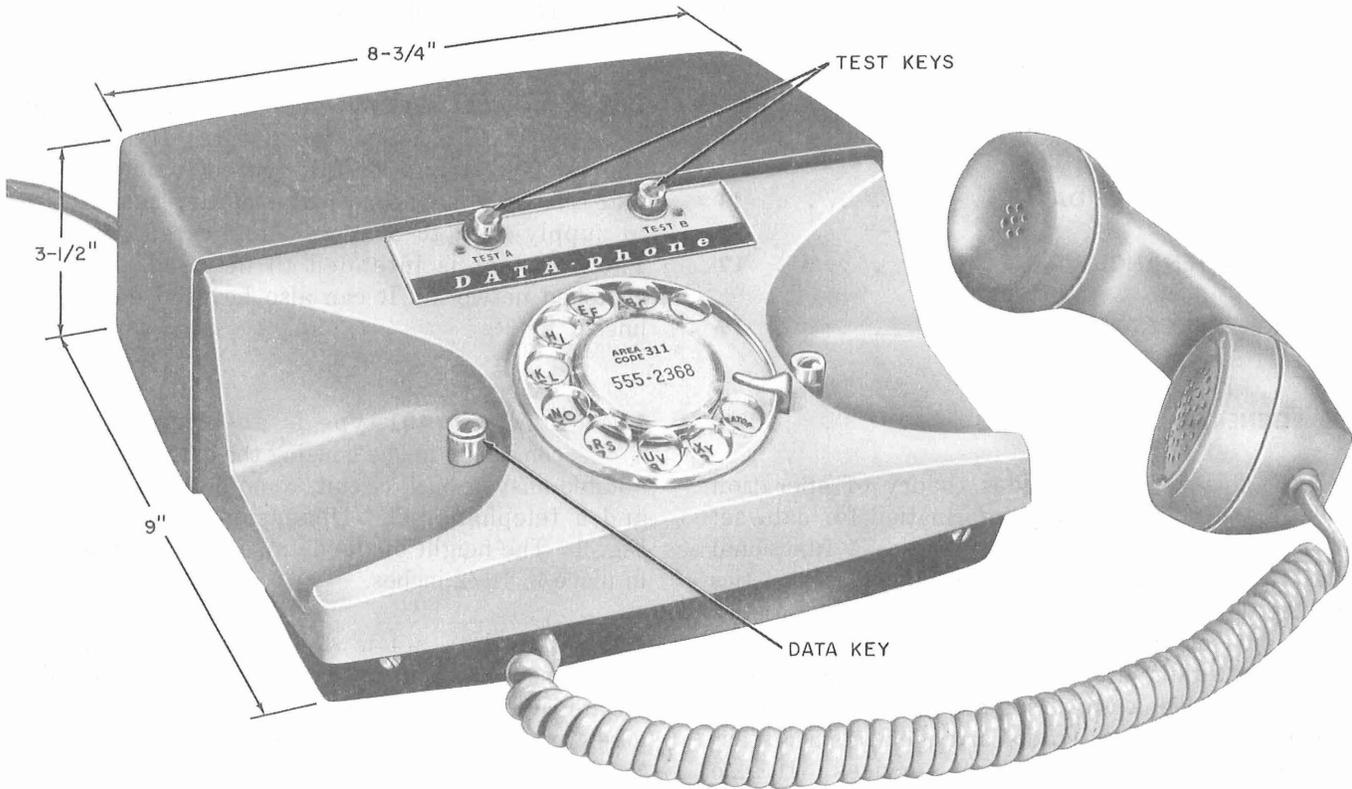

Fig. 1—Data Set 401-Type
**1.04** Data set 401-type is an integrated set, combining in one housing the data transmitter, audible answer-back circuit, remote testing circuits, and a telephone set. Dimensions are shown in Fig. 1. The height of the data set with the handset in place is 4-1/2 inches.